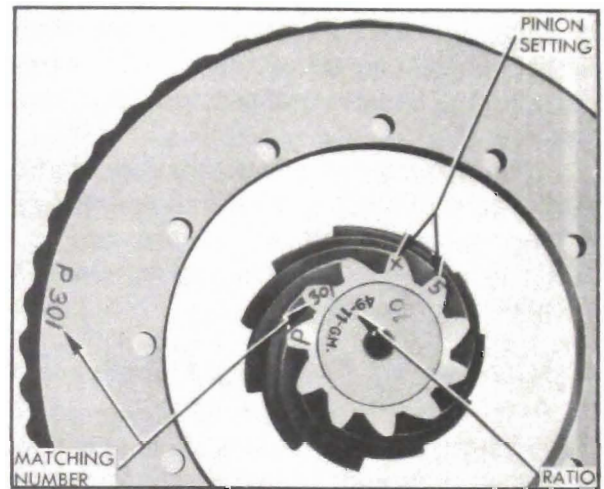

Figure 5-23—Ring and Pinion Gear Markings
4. Check matching numbers on new ring gear and pinion to make sure the two parts have not been mixed with another gear set. See figure 5-23.
5. After making sure that surfaces of case flange and ring gear are clean and free of burrs, bolt gear to case using eleven (11) $\frac{5}{16}$ "x $1\frac{1}{2}$ " bolts with $\frac{3}{8}$ " SAE nuts placed in rivet hole counterbores to act as spacers. **CAUTION:** It
All Buick ring and pinion gear sets are selectively matched for quiet operation and proper tooth contact. After matching, a serial number is etched on one tooth of pinion and on rear face of gear to aid in keeping matched parts together. See figure 5-23. Parts having different matching serial numbers must never be used together.
pinion tooth. See figure 5-23. When a pinion is marked “+” (plus) it means that the pinion must be set at a distance from the centerline of the ring gear equal to the “nominal” setting *plus* the amount indicated on pinion tooth. When a pinion is marked “-” (minus) it means that the pinion must be set at a distance equal to the “nominal” setting *minus* the amount indicated on pinion tooth.